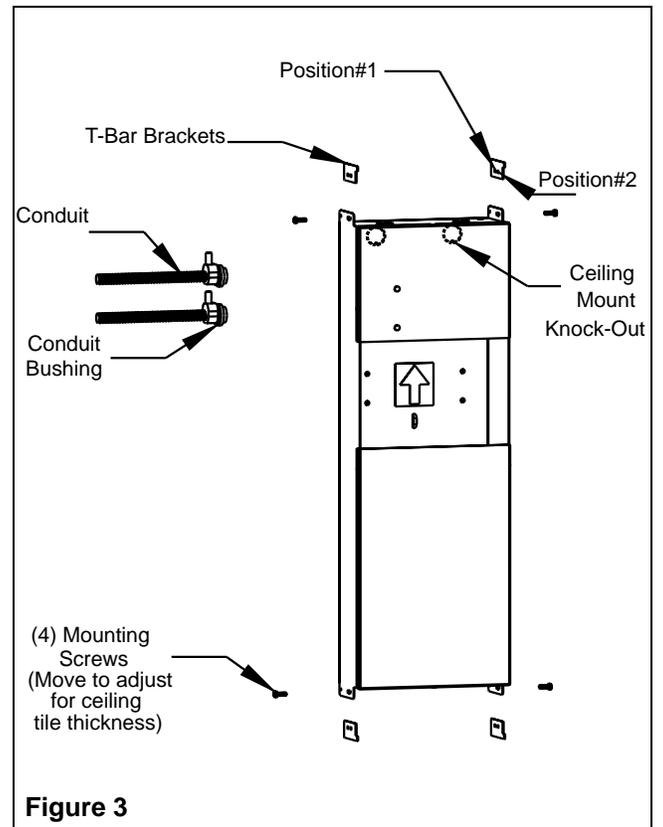

Figure 3
Back-Box Installation in T-bar Ceiling (Figure 3, 4)
1. Knock out the hole(s) on the rear of the back-box for incoming cable(s) (AC line; DC emergency line, Figure 3).
2. Mount the supplied T-bar brackets on the four tabs as shown in the Figure 3. Use position #1 hole for 1-in. T-bar and position #2 hole for 1.5-in. T-bar. For each position move the bracket to adjust the slot hole(s) for 1/2 in. or 5/8 in. ceiling tile thickness to locate the back-box flush with the back face of the ceiling tile. Tighten the screws.